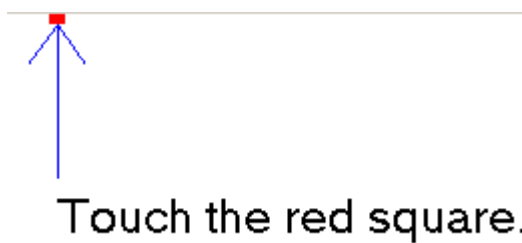

Figure 7-11: Calibration Screen
Step 10: The calibration screen in is shown. See **Figure 7-11**.